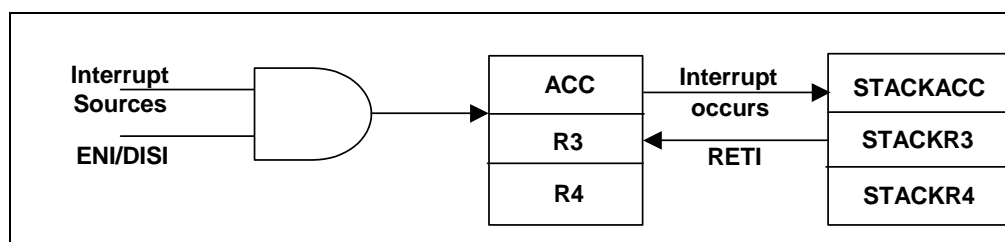

Fig. 6-8 Interrupt Back-up Diagram
The flag (except ICIF bit) in the Interrupt Status Register (RF) is set regardless of the status of its mask bit or the execution of ENI. Note that the outcome of RF will be the logic AND of RF and IOCF (refer to Fig 6-8). The RETI instruction ends the interrupt routine and enables the global interrupt (the execution of ENI).